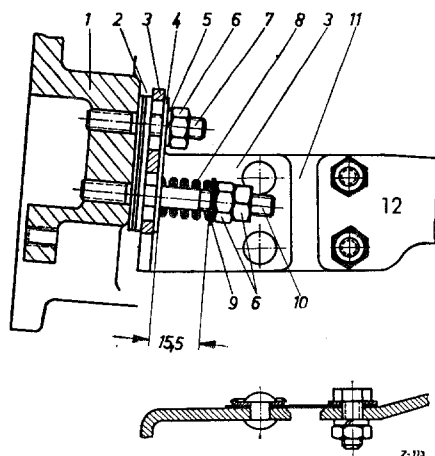

Fig. 29-1/5
The shackle has been repositioned in order to prevent the hand brake cable from touching the relay lever (1) shackle. The relay lever with top shackle can be replaced by the lever with reversed shackle (Fig. 29-1/4).
The 4th version clutch pedal shaft is carried in a swivel support as on Model 190. On Models 180 a, 180 b, 190 D, and 190 Db the swivel support bracket is elastically mounted on the clutch housing as on Model 190 (Fig. 29-1/5). On all other models the bracket is rigidly screwed to the clutch housing (Fig. 29-1/6).